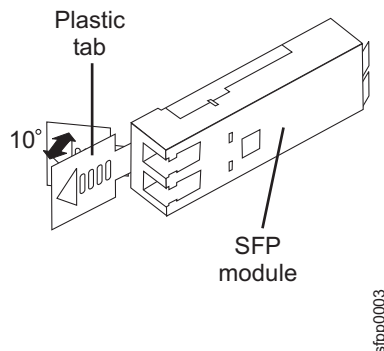

Figure 21. Unlocking the SFP module latch, plastic tab type
1. Pull the plastic tab outward 10° from the SFP to unlock it (see Figure 21).